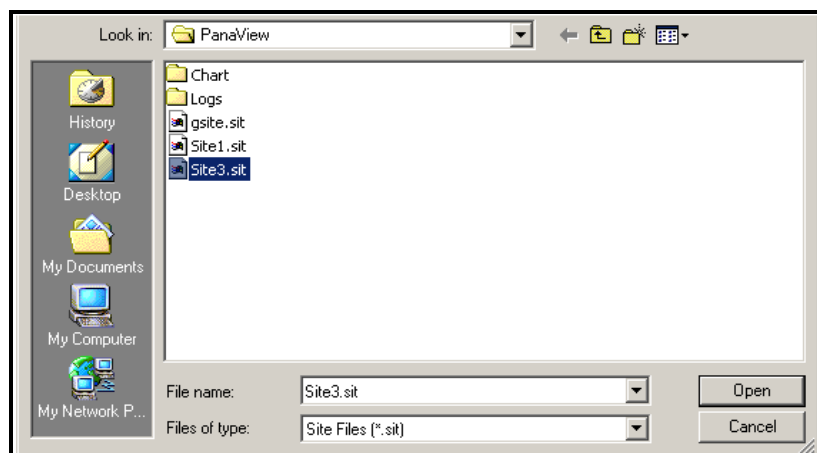

Figure 15: Site File Selection
2. Then click on the *Save Site to Meter* button. A screen opens similar to Figure 15 below.
3. The *Site File Selection* window (Figure 15 on page 12) opens. Highlight a site with the desired settings, and click [Open]. *PanaView™* saves the site in the meter with the new name and the desired settings.
3. The *Site File Selection* window (Figure 15 on page 12) opens. Enter the desired site name (now with a .prt suffix) and click [Save]. *PanaView™* displays a text version of the site, as shown in Figure 17 below.